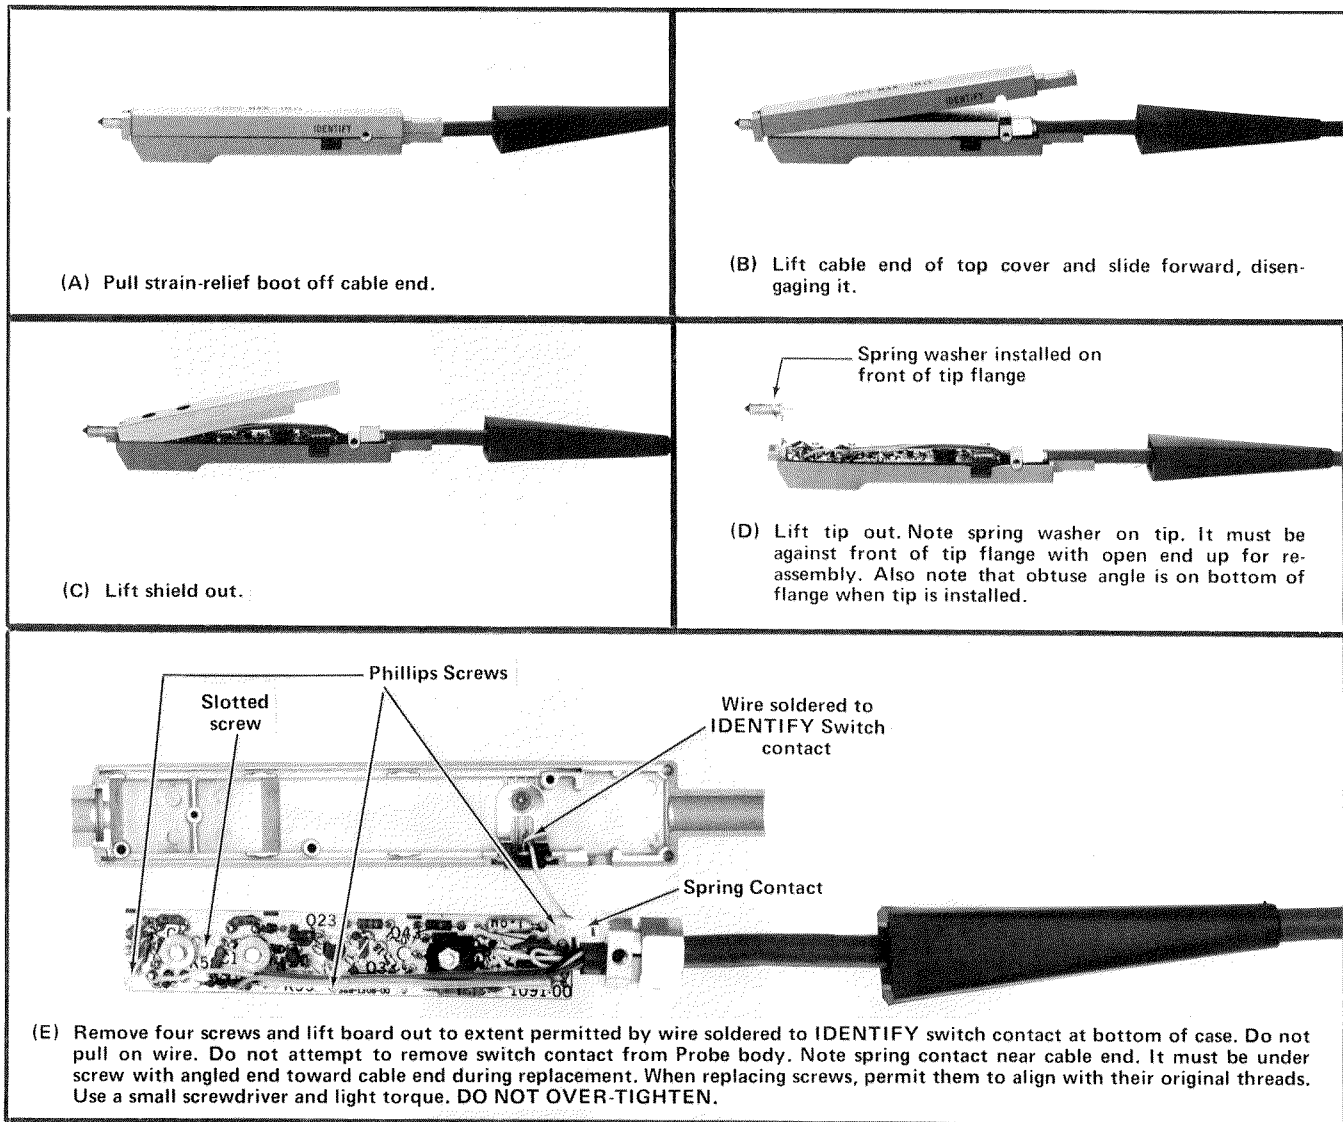
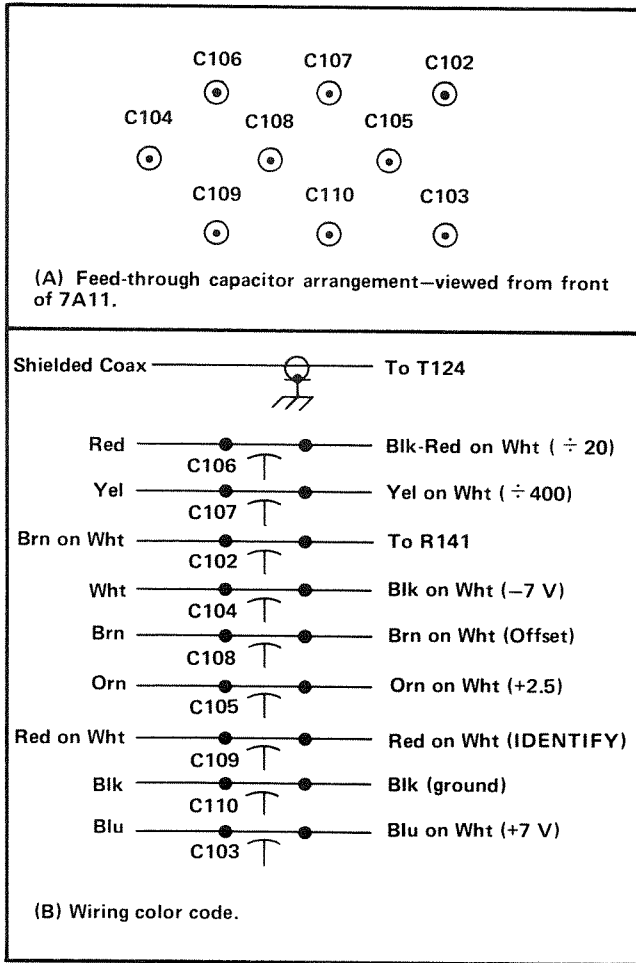

Fig. 4-4. Probe dis-assembly. Reverse the procedure for re-assembly.
Fig. 4-5. Probe cable connections within Plug-In Unit.
Probe disassembly and assembly instructions are provided in Fig. 4-4. Component locations and wire connections appear in Fig. 4-5 and 4-7. Because of size, voltage re-
(3) Soldering on the board must be done quickly and neatly, using a 15 watt iron, a 3/64 inch nickel-plated tip, and common electrical solder. One exception to this is when soldering the Cable Tiedown Strap in place. Then a 40 watt iron with a 3/16 inch tip should be used. Heat the iron thoroughly; then solder quickly to avoid damage to either the board or the cable dielectric material. All solder connections should be checked under a magnifying glass, looking for poor connections, short circuits and damaged components.
(4) Water-soluble detergents, ethyl alcohol, methyl alcohol, or isopropyl alcohol are recommended for cleaning the board, if cleaning is necessary. **Other materials may damage the circuit board and should not be used.**
(5) During re-assembly, install the spring washer and spring contact in place properly, as noted in Fig. 4-4.
(6) When screws are re-installed, they should be threaded into the original female threads. Excessive tightening of the screws should be avoided. Use a screwdriver which has a small diameter handle, and use very light torque.